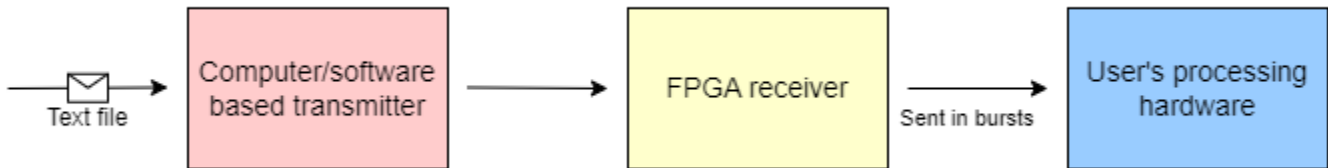

Figure 3: Front End Subsystem
WiSyn is a wideband frequency synthesizer developed to emulate (1) the front-end of the data acquisition subsystem (**Front-End**) and (2) a digital wave generation (**Wave Generator**). The **Front-End** (Figure 3) consists of 2 parts: a computer/software-based transmitter (red) and an FPGA-based receiver (FPGA Receiver) (yellow). The output of the FPGA Receiver is fed into the user's processing hardware (blue). Using FPGA, it enables the user's processing code to be done in FPGA hardware. The computer/software-based transmitter accepts user input data in the form of a text file which makes it easy for the user to construct, make changes and feed into the emulation system.